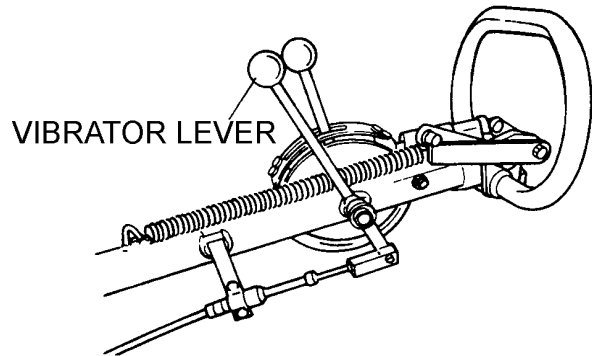

Figure 21. Vibrator Lever
1. Shift the two vibrator levers (Figures 21 and 22) to the vibrate position to start vibrations.